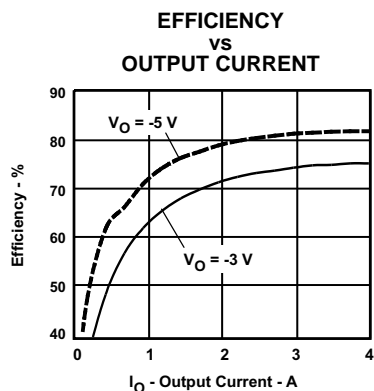
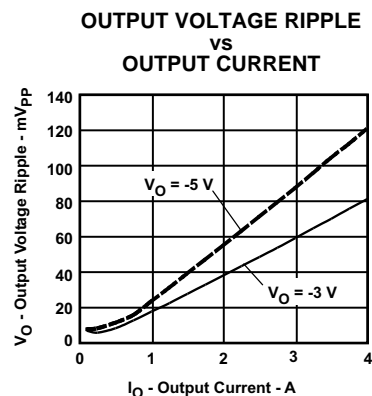
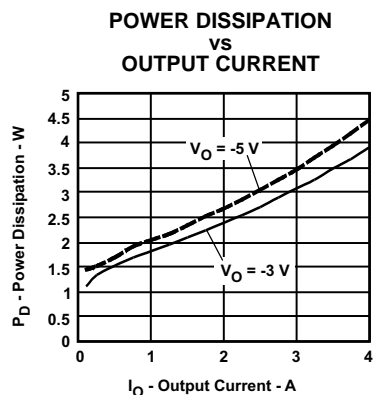

Figure 13.
Figure 14.
Figure 15.
- (1) The electrical characteristic data has been developed from actual products tested at 25°C. This data is considered typical for the converter. Applies to Figure 13, Figure 14, and Figure 15.